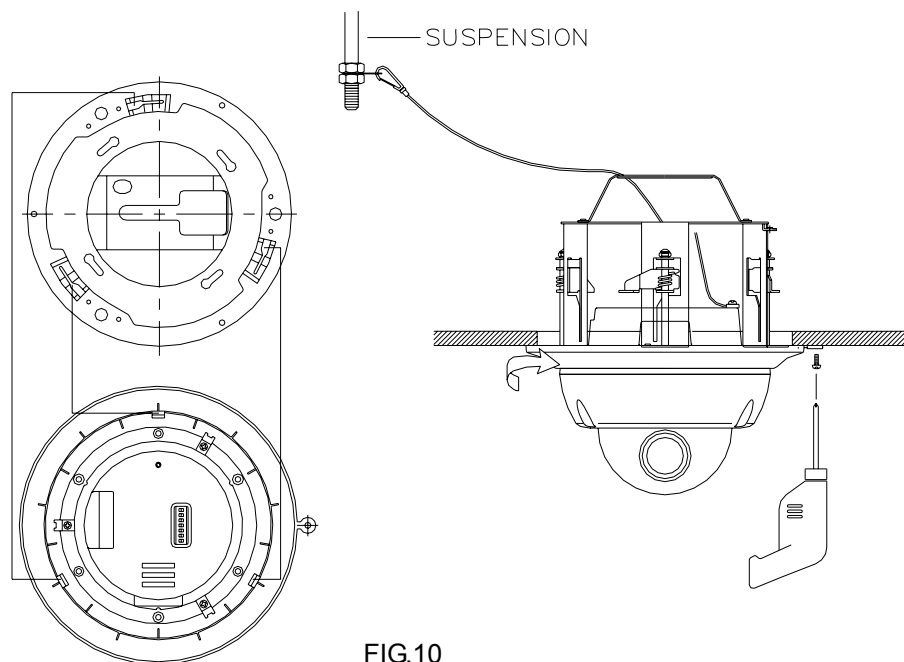

FIG.10
5. Install the camera by inserting cover lock and twisting it clockwise. (FIG.10)
6. Fix the decoration cover by screw ( $\varnothing 4.0 \times 16$ ) (FIG.10)